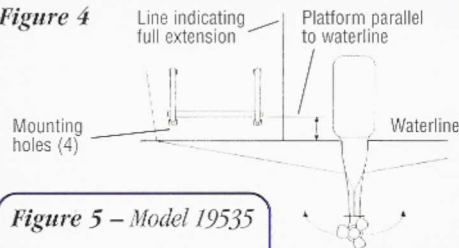

Figure 5 - Model 19535
9. For Models 19535 and 19545, mount ladder to platform as shown (Fig 5). Secure ladder (H) 50.702 to platform (B) 06.303. Place bolts (F) 03.075 through gudgeons and secure with locknuts (D) 03.221.